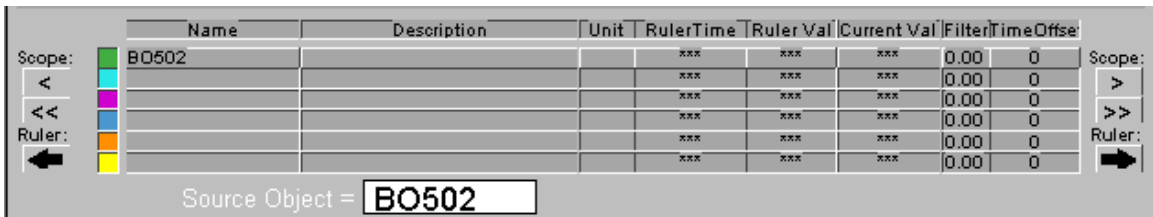

Figure 192. Entering the Log Name
3. In this edit field, enter the name of a log, Figure 192. The format can be: